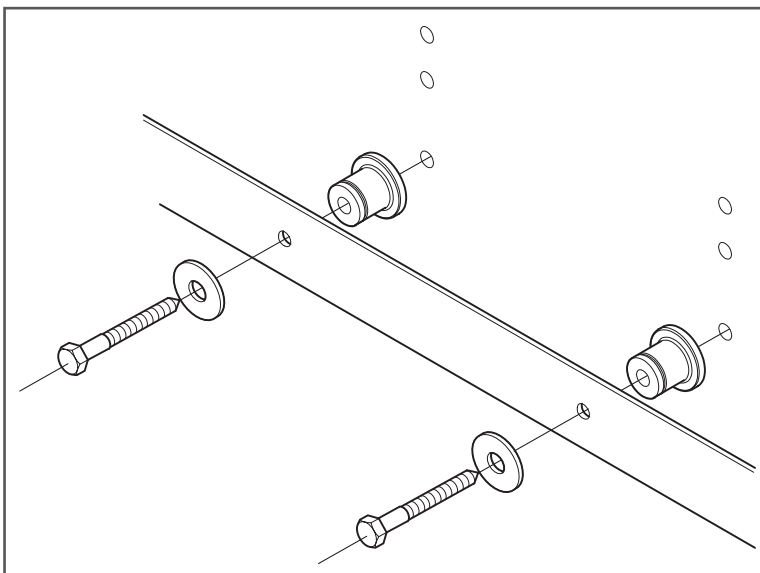

Figure 5
8. Install spacers and one rail in the bottom holes closest to the panel or door using lag screws and washers (provided) (Figure 5).